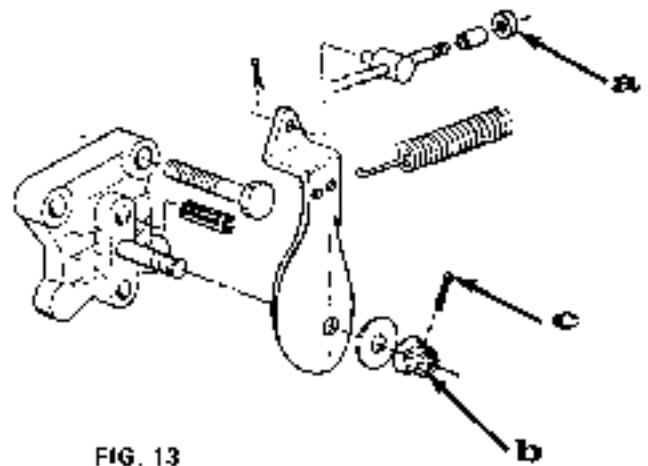

FIG. 13
**FINE BRAKE ADJUSTMENT** — Remove hair pin (C). Turn the castle nut (B) clockwise to tighten one quarter revolution and check brakes. Repeat as necessary to have proper braking power. Replace hair pin (C). (See Fig. 13).
**PEDAL ADJUSTMENT** To take up the adjustment on the brake linkage, tighten or loosen the hex nut (A) on brake linkage. (See Fig. 13).